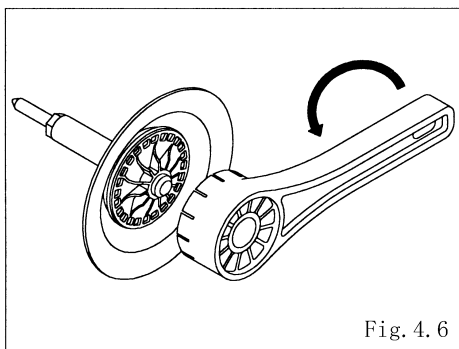

Fig. 4.6
- Remove the center disk with spanner (21mm), and remove the diaphragm, center disk and O ring (PC, PT) from the center rod. (AD-10P□ type) [Fig. 4.6]
- Remove the center disk with the attached tool (dedicated tool: part No.771244), and remove the diaphragm, center disk and O ring (□T type) from the center rod. (AD-25P□, AD-25V□ type) [Fig. 4.6]
- Remove the center disk with the PP wrench (dedicated tool: part No.771868), and remove the diaphragm, center disk and O ring (□T type) from the center rod. (AD-40P□, AD-40VT, AD-50P□ and AD-50V□ types) [Fig. 4.6]